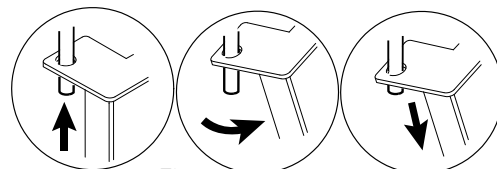

Fig. 8
**If necessary, remove the tray holders from (Fig.8) the pivot and take them out of the cooking compartment**